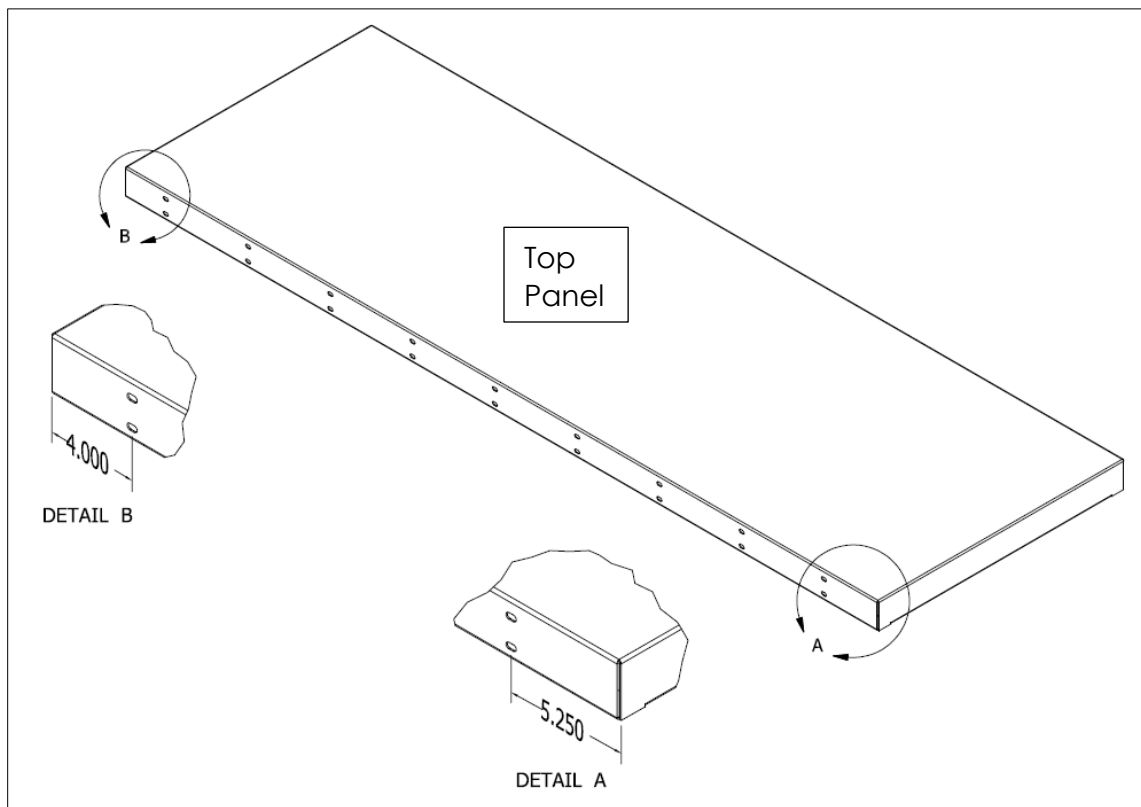
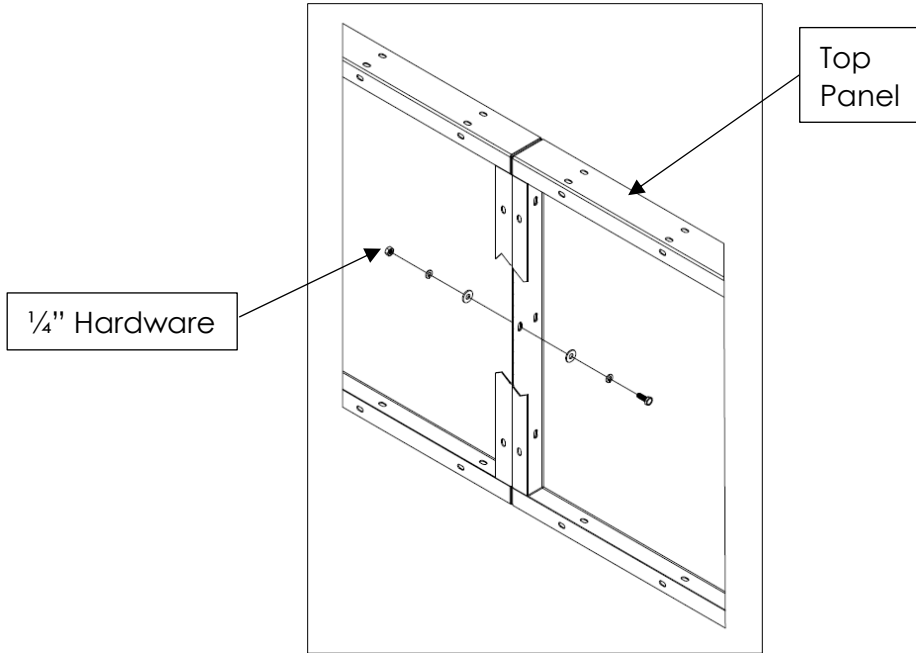

FIG. 4
FIG. 5
- Assemble top panels together (Skip this step for 8' W booths). The top panel assemblies consist of two panels. The outside edge of the panel is 5.25" to the center of the mounting slot. The inside edge is 4.00" to the center of the mounting slot. The outside edges of the panels do not have any mounting slots (see FIG. 4). The inside ends of each top panel are bolted together in three places. If the top panels are insulated, bolt through the holes' nearest flange (See FIG. 5). Make sure sides of panels lay flush with each other.